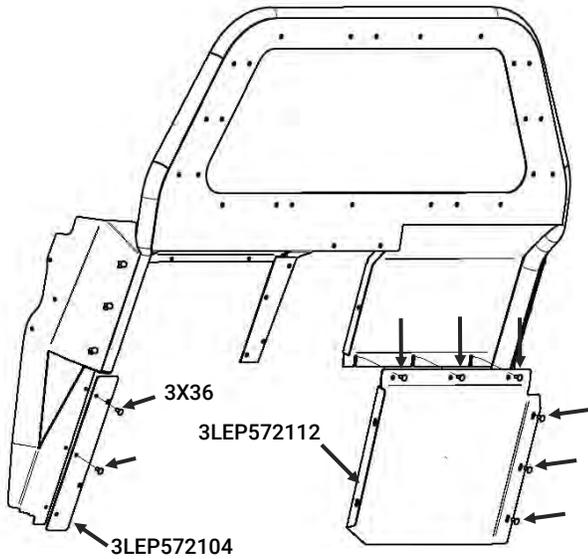

Figure 4
- A. Align holes of Viper housing frame backer [3LEP572104] on the top surface of the mounting plate. Loosley fasten using (2) carriage bolts [3X36] and whiz nuts [3X16Z] (Figure 4).
- B. Position Lower Extension Panel [3LEP572112] over passenger mounting plate and partition knee box aligning the (3) holes at the top of the panel and the (3) holes at mounting plate and loosely fasten using (6) carriage bolts [3X36] and whiz nuts [3X16Z] (Figure 4).